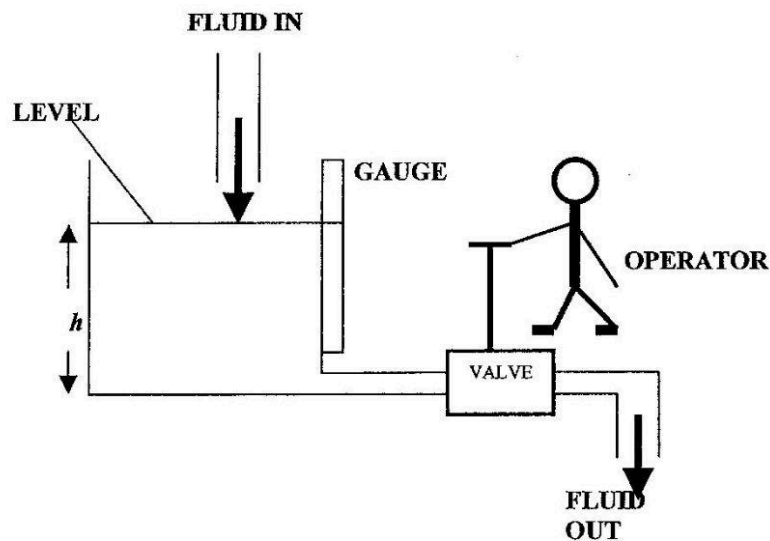

Fig Q9
9. Fig.Q9 shows a tank filling with fluid at a variable rate, and an output regulated manually by an operator controlling a valve.